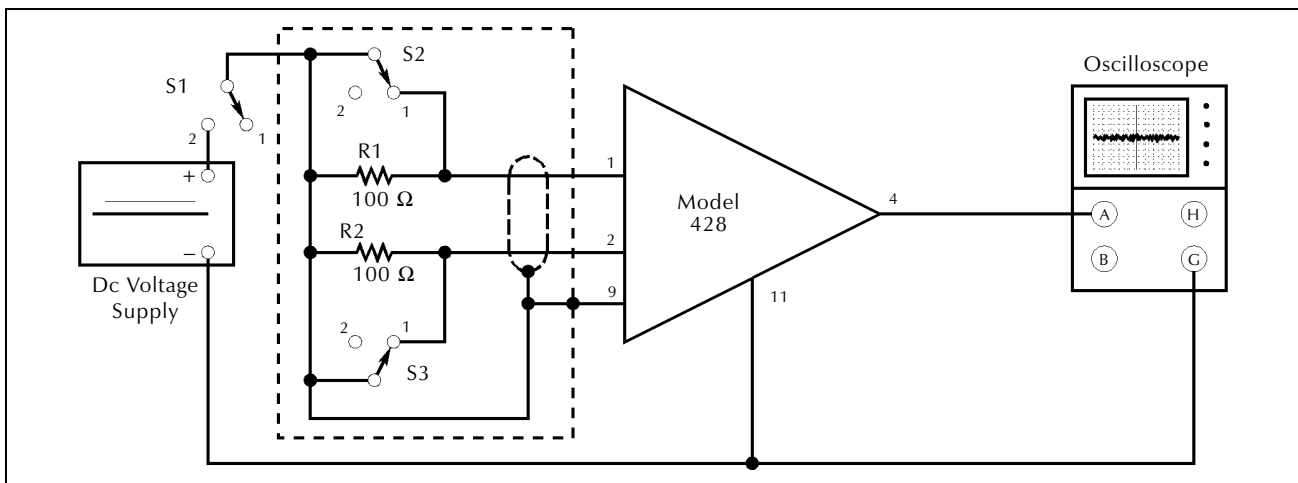

Figure 5-8
1. Connect the amplifier to be tested as shown in Figure 5-8, and set its gain to 1000 (1024 for Option G). For R1 and R2, use either metal-film or carbon-film or carbon-composition resistors. Set the dc voltage supply for 100 V.